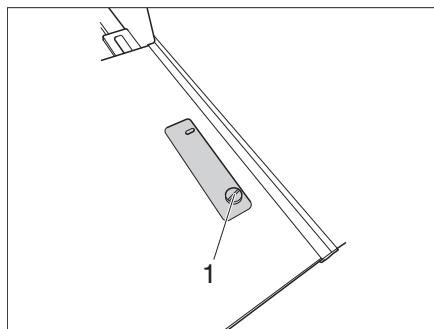

Fig. 22 Campbox fixing screw
- Unscrew the fixing screws (Fig. 22,1) on the left and right of the Campbox.
- ▷ Make sure that the fixing screws (Fig. 22,1) are always sufficiently tightened.
- Position the Campbox over the fixing holes and screw in the fixing screws (Fig. 22,1).